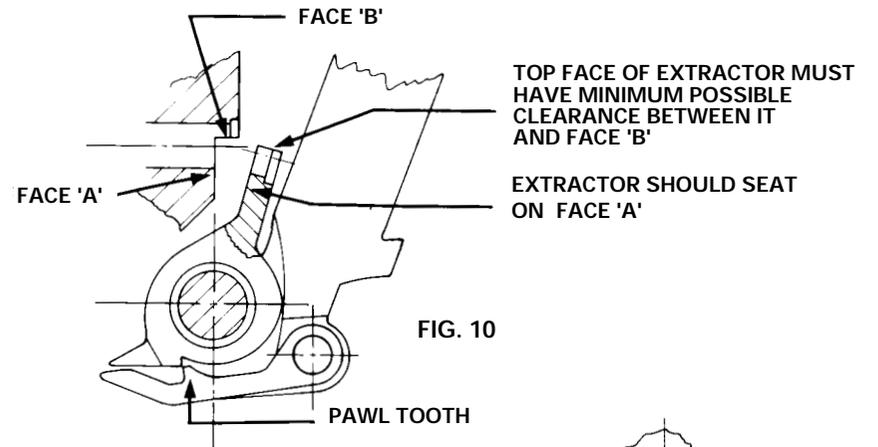

FIG. 10
1. Assemble extractor to Firing Block (710/4), check that tooth of pawl (710/27) fits its working face on the extractor (see Fig. 10). If necessary, file this face on the extractor with a super smooth file to achieve the necessary fit; if possible the tooth of the pawl should be of such a fit that it requires a slight push to engage on its working face on the extractor.
2. The extractor, still assembled to the Firing Block, should be assembled to the Barrel. If the top face of the extractor (see Fig. 10) interferes with the cut out in the breech block it will be necessary to file this face of the extractor so that it just clears to allow the "blade" face of the extractor to seat. It is important that only the minimum amount of material is filed from this top face, with a super smooth file.
4. Then file a **small** semi-circular groove in the exact centre of pin (at right angles to axis), approximately $\frac{1}{64}$ " (·4 mm) deep and $\frac{3}{32}$ " (2·5 mm) wide (Fig. 10).